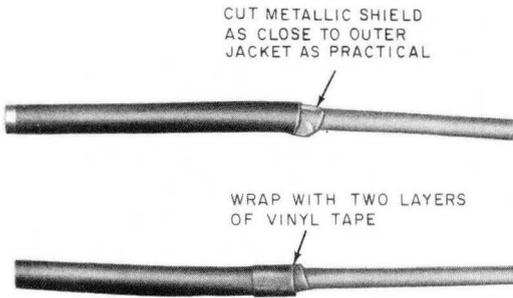
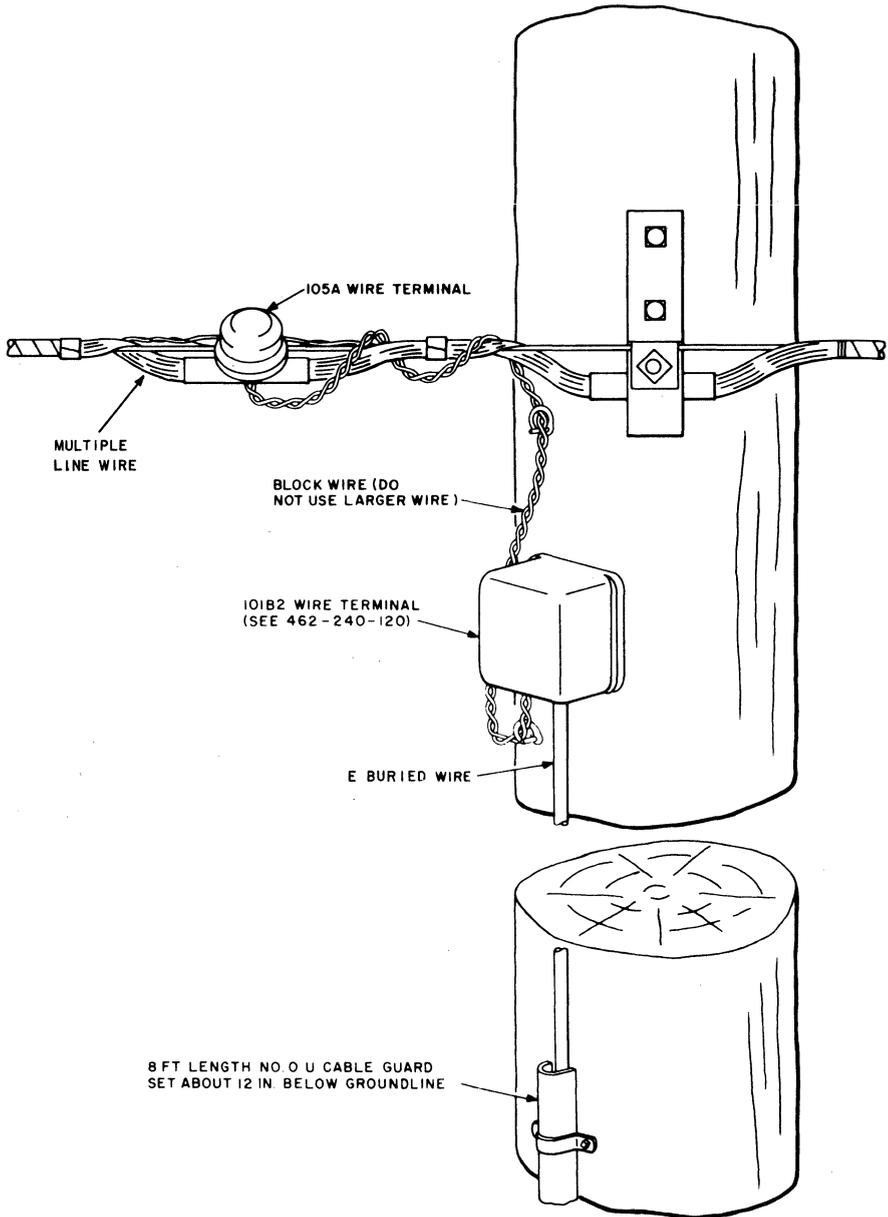

Fig. 26—▶Removal of Metallic Shield◀
Fig. 29—E Buried Wire Terminated to Multiple Line Wire
7.04 Where the buried wire is 700 feet or less in length, grounding of the metallic shield at the cable terminal is omitted, unless special lightning protection is required (see 7.07). Cut off the metallic shield at the terminal location and wrap with two turns of vinyl tape to protect against sharp edges (Fig. 26).
8.02 E buried wire can be used with or fed from multiple wire where the multiple wire is exposed to power contact and fuseless station protection is used. E buried wire should be brought up a pole and terminated in a 101B2 wire terminal. The metallic shield should be cut back and taped as shown in Fig. 26. Connect the conductors of E buried wire to the conductors of the multiple wire with block wire. At the groundline the wire should be covered with an 8-foot length of No. 0 U cable guard. Fig. 29 shows a typical example of E buried wire being connected to a 105-type wire terminal.
9.02 At the junction with C rural wire, E buried wire can be brought up a pole and terminated in a 101B2 wire terminal. The metallic shield should be cut off and taped as shown in Fig. 26. Block wire should be used to bridle between the 101B2 wire terminal and the 107-type wire terminal on the C rural wire. At the groundline, the E buried wire should be covered with an 8-foot length of No. 0 U cable guard. A typical installation is shown in Fig. 30.
10.02 At the junction with open wire, E buried wire can be brought up a pole and terminated in a 101B2 wire terminal. The metallic shield should be cut off and taped as shown in Fig. 26. Block wire must be used between the protector and the open wire. At the groundline, the wire should be covered with an 8-foot length of No. 0 U cable guard. A typical installation is shown in Fig. 31.